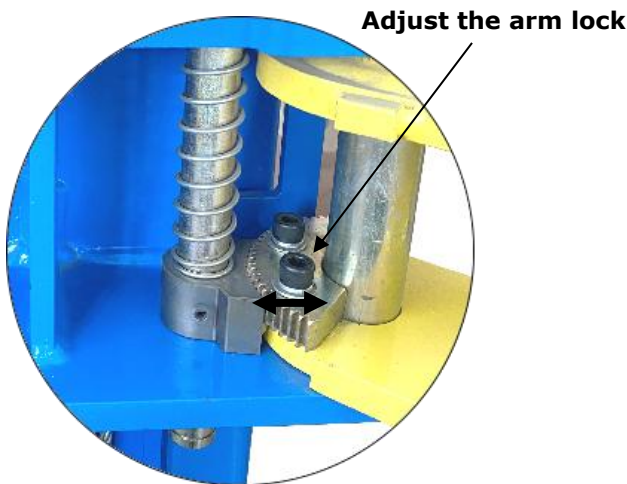

Fig. 38
3. Adjust the arm lock as direction of arrow (See Fig. 38)